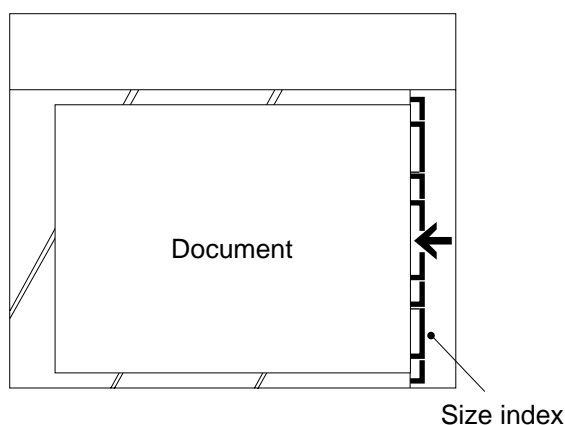

Figure 1-401B
- ④ Main Indicator
- ⑤ Power Switch
- Place the document so that its center is at ← on the size index (Figure 1-401B); then, close the copyboard cover.